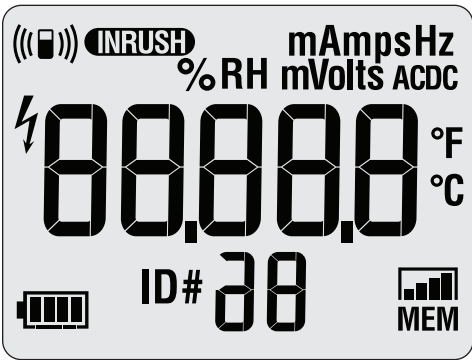

Figure 2. All Segments of the Display
- 2. Push  while you keep LOG pushed until all of the display segments are shown. See Figure 2.